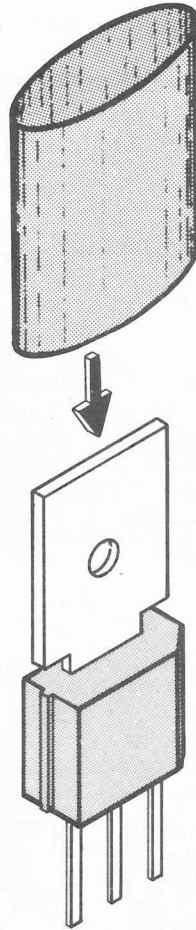

Figure 42. Installing heat-shrinkable tubing on transistor tabs.
(3) Cut five 1/2" lengths of shrinkable tubing (IN903). Refer to Fig.42 and place one of these 1/2" sleeves over each of the following collector tabs: Q301, Q302, Q219, Q220, and Q101 ... ()